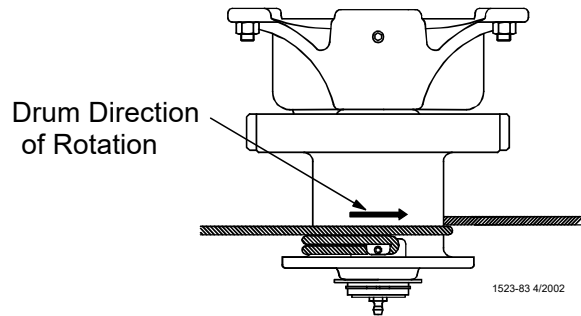

Figure 11. Power Winch Drum Rotation
- Turn the winch drum one full revolution. Guide the cable against the flange at the bottom of the winch drum. The cable must not wrap over itself on the drum, but should be wrapped as close as possible to each previous wrap. See Figure 11.